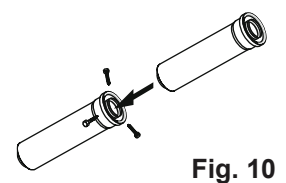

Fig. 10
7. Connect the terminal pipe to starter bend (ensuring components are pushed 'fully home'. Secure the PVC joints of bend to the terminal pipe with three (3) #8x1/2" or equivalent self tapping screws (not supplied) as shown in Fig. 10.
1. Follow the installation method as described for the DIRECT HORIZONTAL FLUE above. Use FFSSPIPE1000 and FFSSBEND90 / FFSSBEND45 components to extend the installation horizontally as required. Note that PVC joints **MUST** be secured with three (3) #8x1/2" or equivalent self tapping screws (not supplied) Fig. 10.